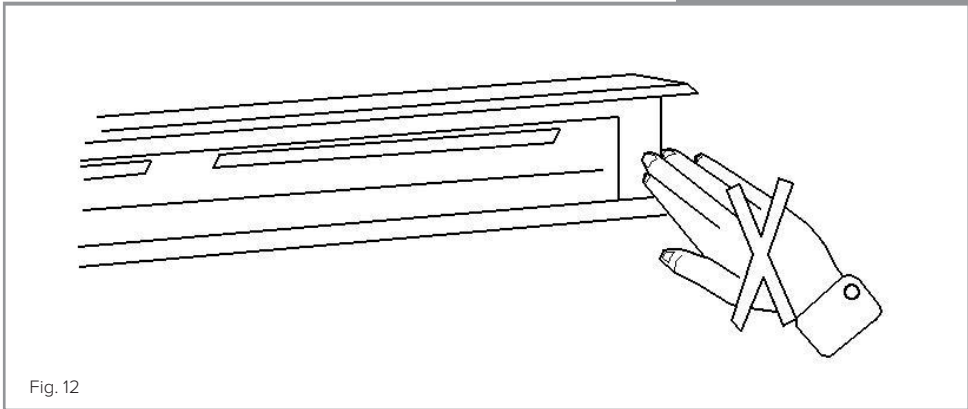

Fig. 12
1. When the panel is lowering, DO NOT place your hand on the decorative panel – DANGER of trapping fingers. See (Fig.12) below.